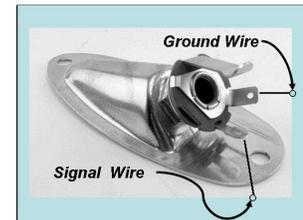

Figure 4.1.6 Output Jack Wiring
1. Solder the signal and ground wires to the jack (see Figure 4.1.6) (Note: if the signal wire is shielded, solder the shield to the ground terminal on the jack).
2. Attach jack mounting plate to the body with the supplied mounting screws (2).